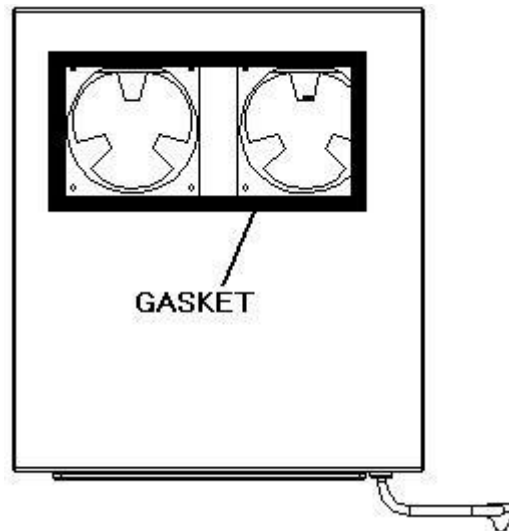

Fig. 2.4 TOP EXHAUST GASKET
- If top exhaust installation, place another gaskets along the top exhaust at the top of the cooling unit (see Fig.2.4).